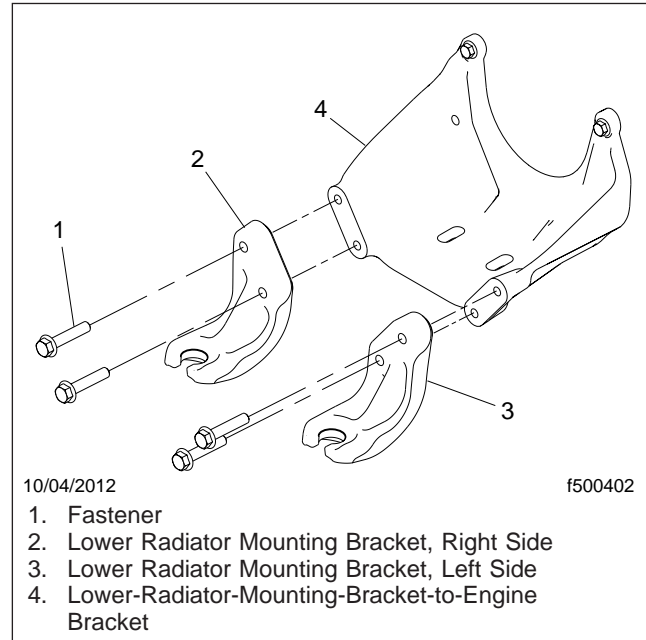

Fig. 6, Lower Radiator Mounting Brackets Installation
22. Install the new lower radiator mounting brackets. See **Fig. 6**. Tighten 191 to 234 lbf-ft (260 to 317 N-m).